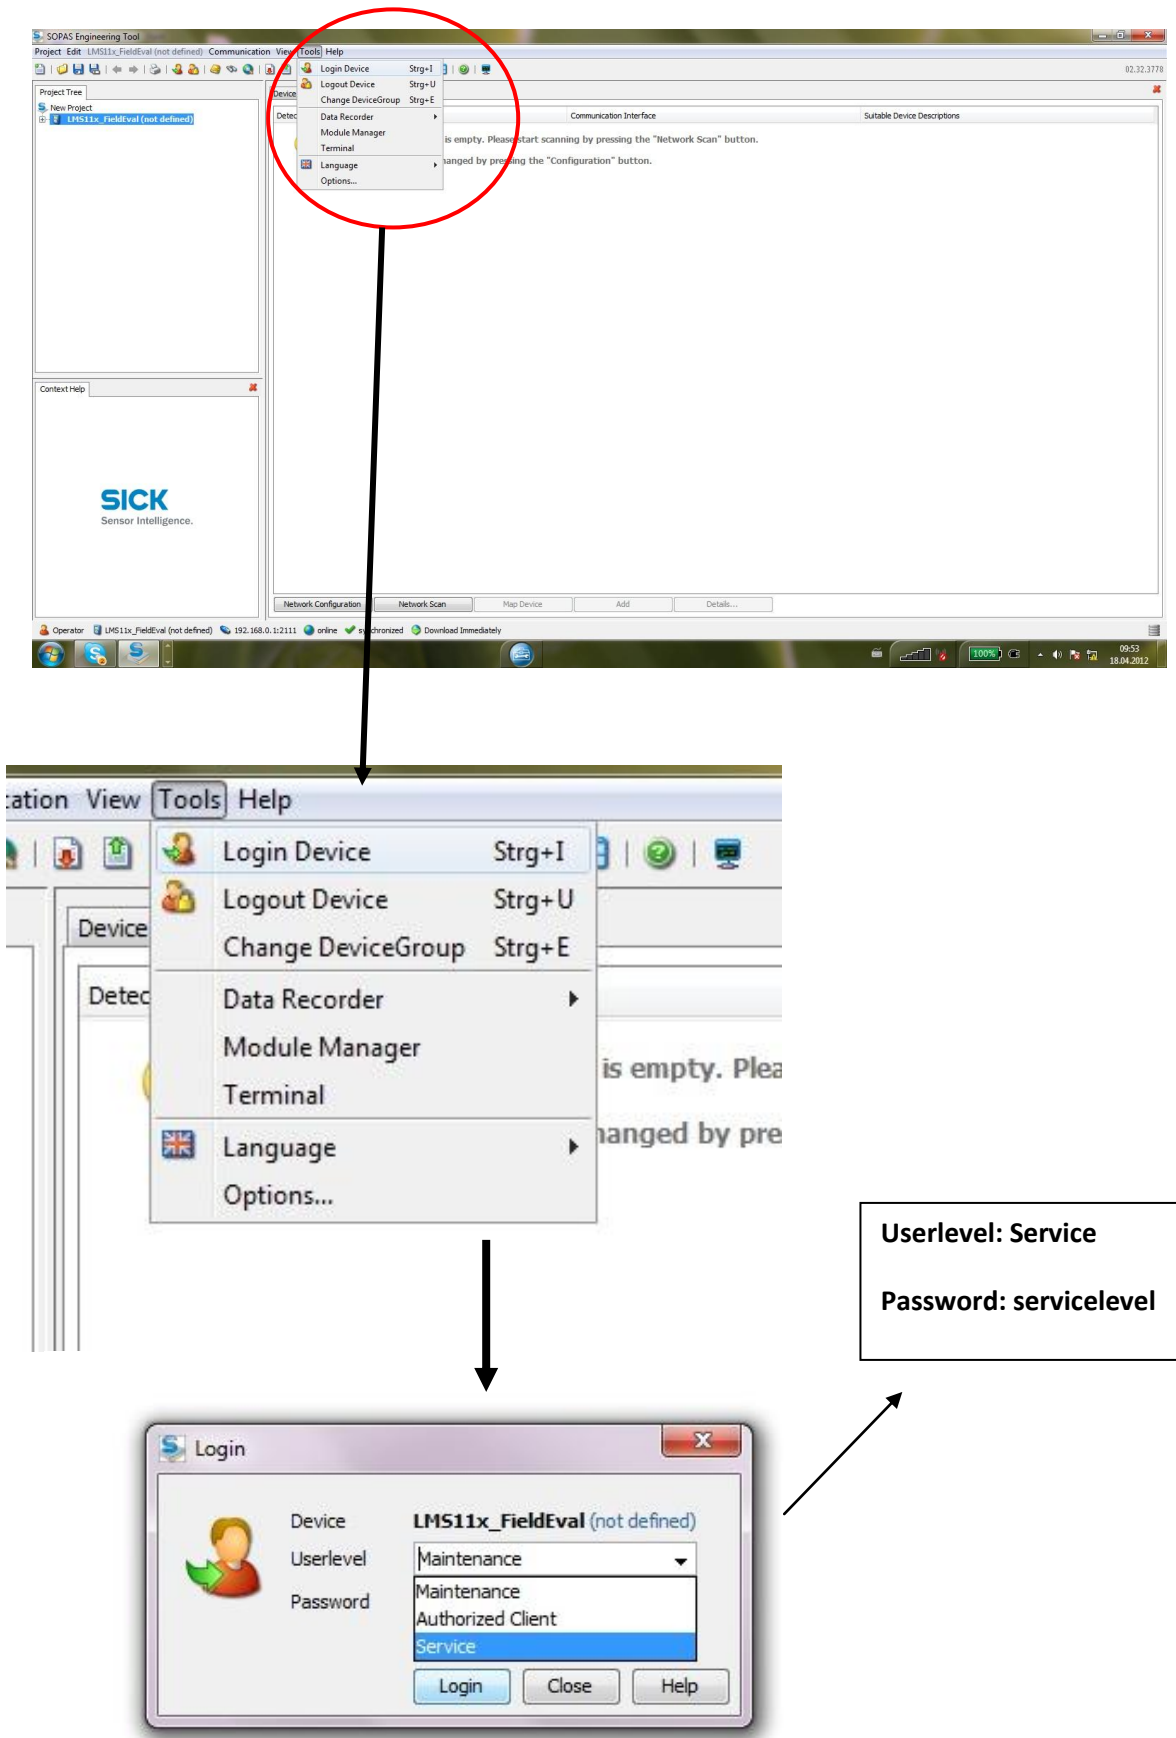

Fig. 7.
6. Loggin the device. Userlevel as *Service* gives more rights than the others (fig.7)